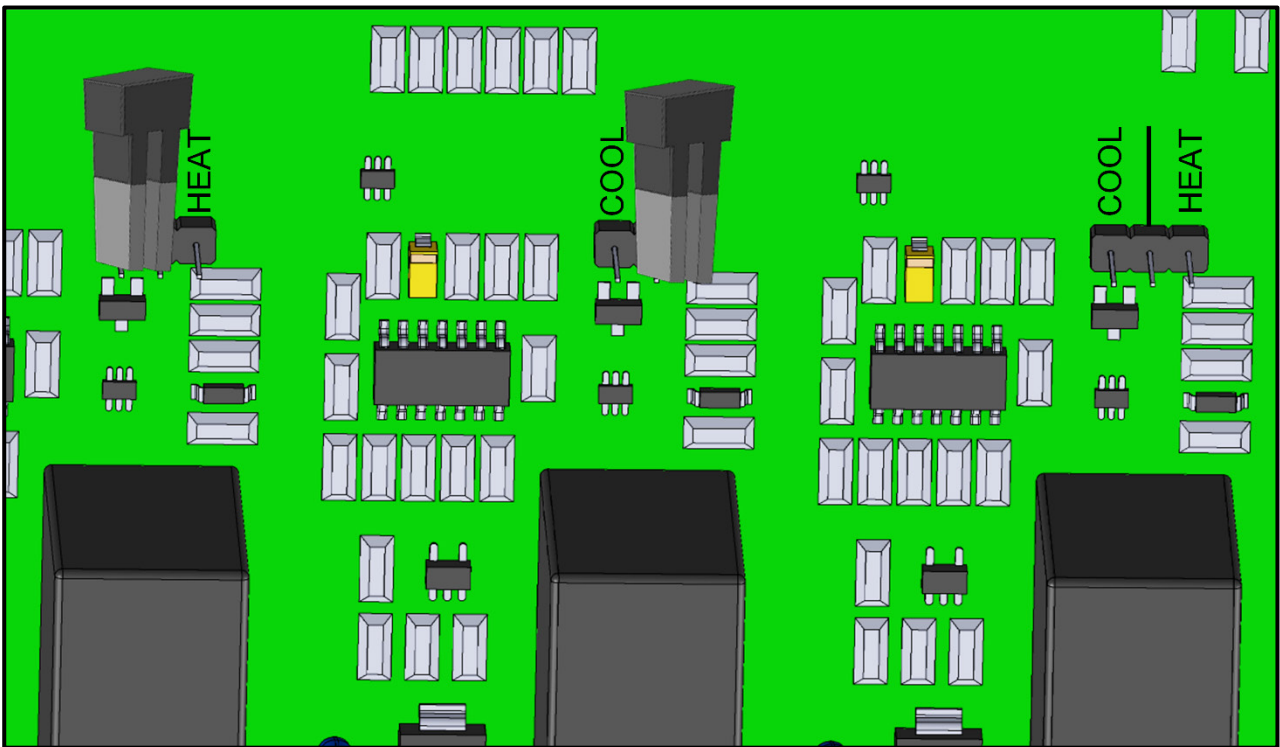

Figure 7: Cooling and Heating Jumpers
- On each relay, place the jumper over the required pins. Figure 7 displays two examples.